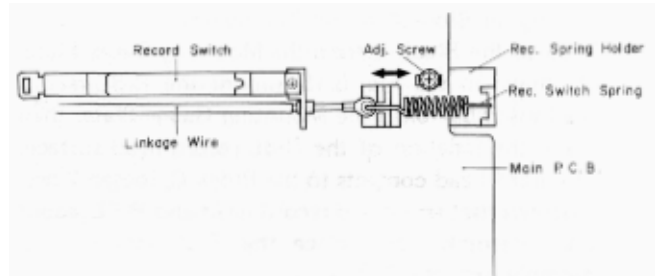

Fig. 5.17.1
- (1) Set the N-481 in stop mode.
- (2) Loosen the screw of the Record Spring Holder, and shift the Record Spring Holder in order to remove the looseness of the Linkage Wire as shown in Fig. 5.17.1. Then tighten the screws for fixing the Record Spring Holder. (In this case, the Record Switch should be positioned at play side. If on the record position, it will be defective.)